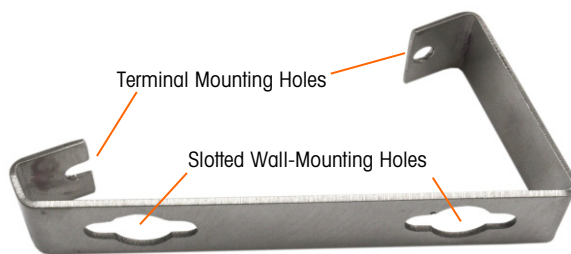
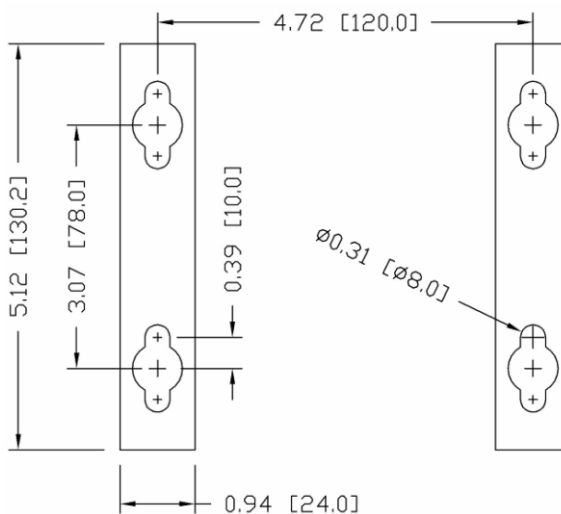

Figure 2-12: Wall-Mounting Bracket
Figure 2-14: Mounting Hole Pattern
Once the brackets are securely fastened to the wall surface, the enclosure can be mounted to them using the four supplied M4 screws. One bracket is shown in Figure 2-12, with the slotted holes indicated. The screws are tightened by fitting the screwdriver through the slotted holes.
Mark the position of the mounting holes on the vertical surface per the dimensions shown in Figure 2-14 in inches and [mm], or by holding the terminal up to the surface and marking through the bracket holes.
8. Back each bolt out enough to leave space for its head and the flat washer to engage the top center of one of the slotted holes in the mounting brackets (see Figure 2-12 and Figure 2-14).
6. Back the bolts out sufficiently to allow them and their washers to engage the top center of one of the slotted holes in the mounting brackets (see Figure 2-12 and Figure 2-14).
Install the screw and washer, leaving sufficient gap to accommodate the slotted hole in the bracket – see Figure 2-12 and Figure 2-14.
Place the holes in the terminal brackets over the fasteners, and slide the terminal down firmly so that each fastener and washer engages the slots in the bracket (see Figure 2-12).